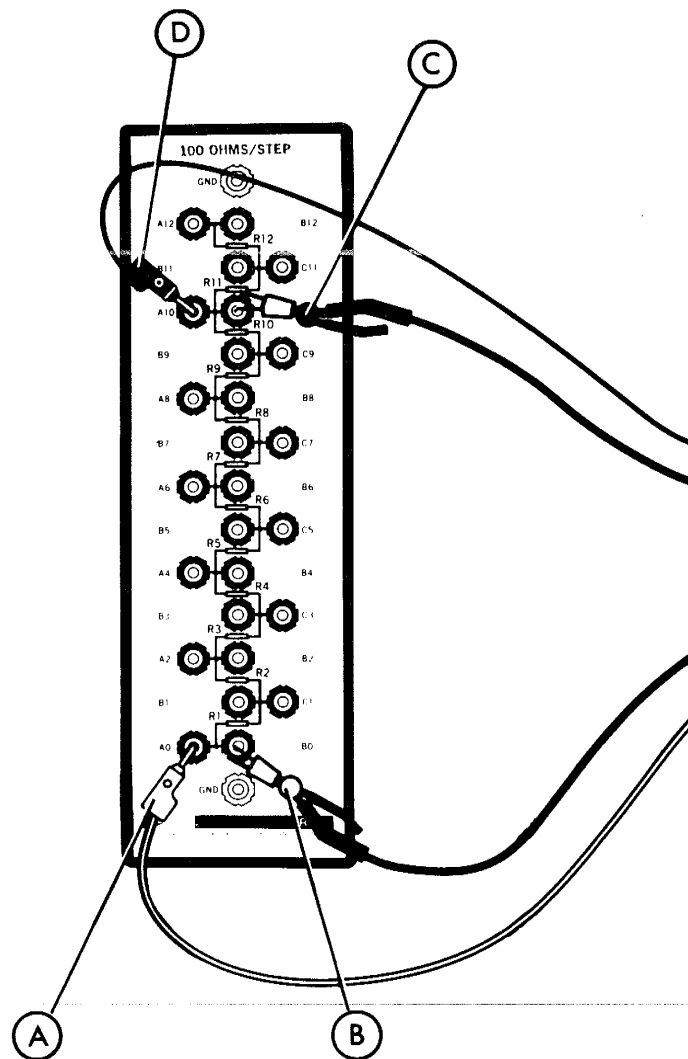

Figure 5-21. Series Connection to SR1030 for 1 kilohm
21. Make the 242D lead connections to the 100 ohms-per-step SR1030 for a series resistance of 1 kilohm. Reference Figure 5-21.